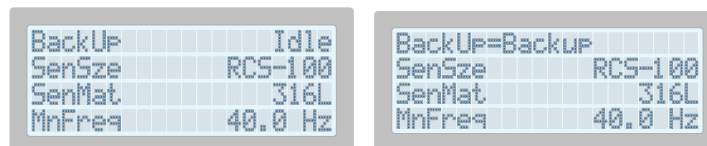

Figure 62: Backup triggered from menu
5. When in editing mode, a cursor will appear under the enumeration text shown to the right of the parameter name. Use **Up** or **Down** to switch the entry from *Idle* to *Backup* (see *Figure 62*).